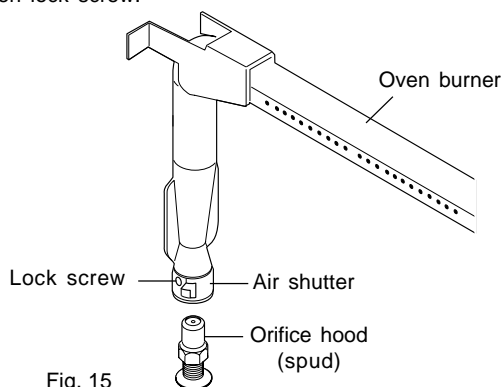

Fig. 15
- Turn off oven and allow to cool before adjusting air shutter. To adjust loosen lock screw (See Fig. 15), reposition air shutter, and tighten lock screw.